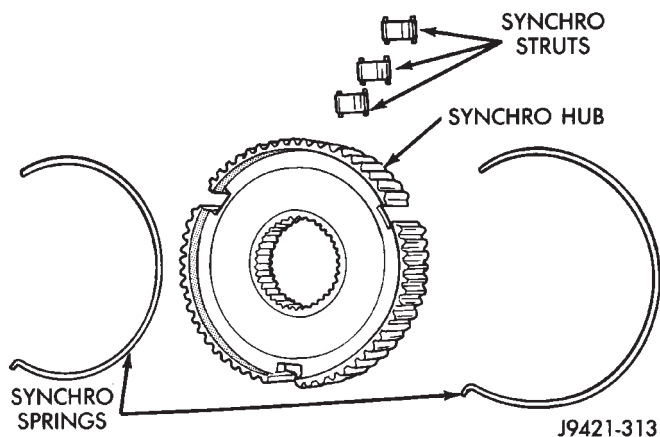

Fig. 34 Synchro Strut And Spring Removal
(3) Inspect synchro hub struts and springs. If struts appear worn, remove struts and springs from hub. Note position of springs for installation reference (Fig. 34).